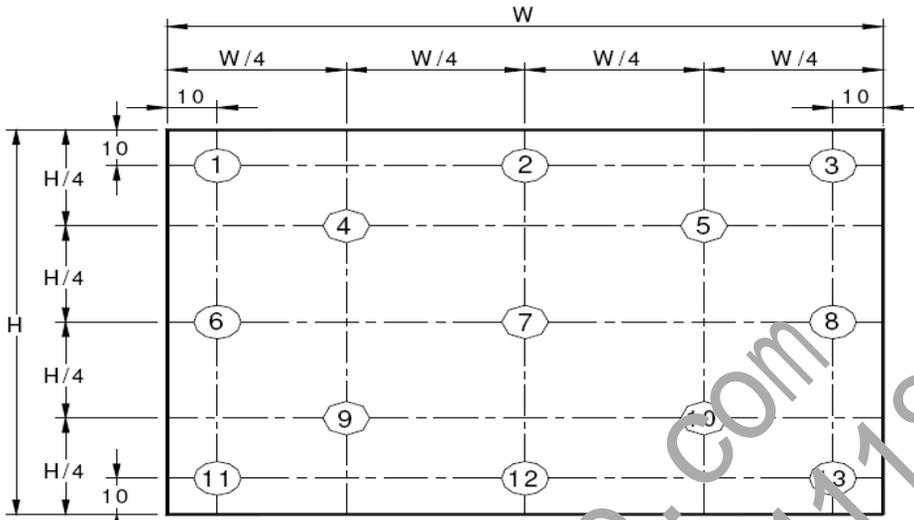

Figure 9. Uniformity Measurement Locations (13 points)
- The White luminance uniformity on LCD surface is then expressed as : $\Delta Y = \text{Minimum Luminance of 5(or 13) points} / \text{Maximum Luminance of 5(or 13) points.}$ (see Figure 8 and Figure 9).
The White luminance uniformity on LCD surface is then expressed as: ΔY_5 = Minimum Luminance of five points / Maximum Luminance of five points (see Figure 8), ΔY_{13} = Minimum Luminance of 13 points / Maximum Luminance of 13 points (see Figure 9).